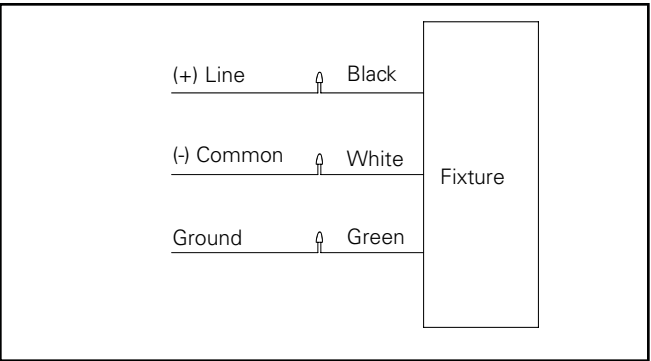

Figure 4.
2. Loosen but do not remove the (2) set screws and (2) center bolts.
4. Refer to wiring diagrams for power connection (Figure 4.)
7. Make wiring connections per wiring diagram and push connections into splice compartment. (Figure 4.)
8. Replace cover plate and tighten (2) cover screws to 15 in-lbs.